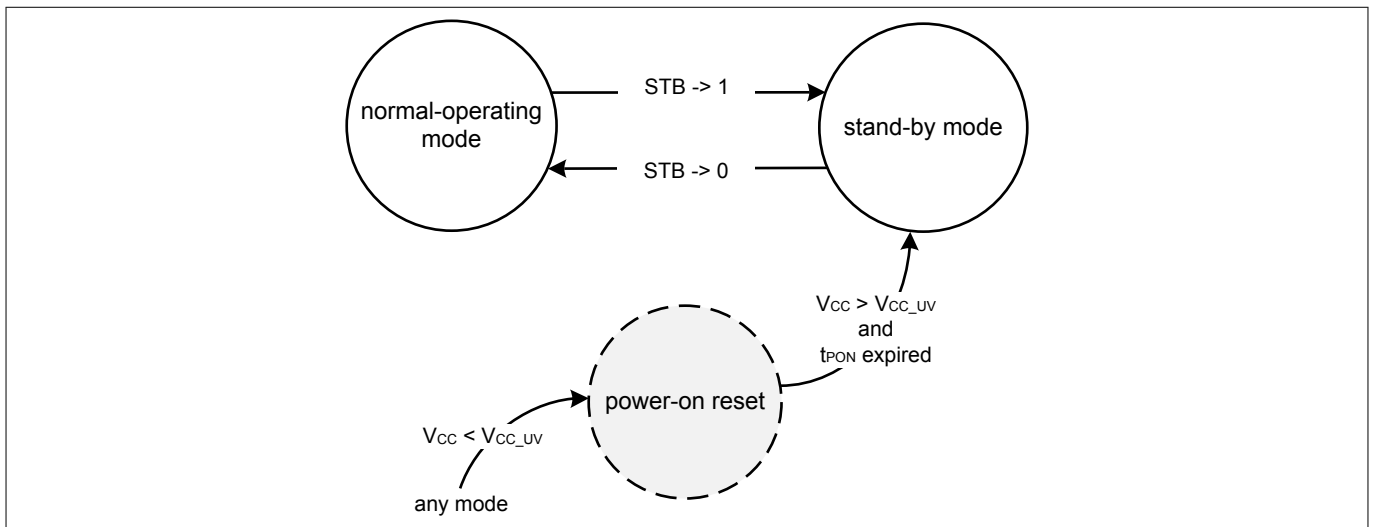

Figure 4 Mode state diagram
The TLE9254 supports two different modes of operation for each HS CAN channel (see **Figure 4**):
In normal-operating mode the TLE9254 sends and receives data from the HS CAN bus. All functions are active (see Figure 4):
- One channel of TLE9254 enters normal-operating mode after t_{Mode} , by setting the respective mode selection pin STB to "low" (see Figure 4).